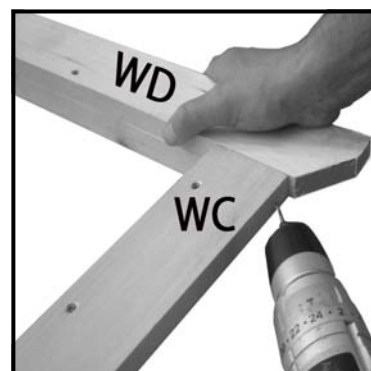

Fig A8
15. Drill (not too deep) and screw in each corner with 40mm screws (fig A8).